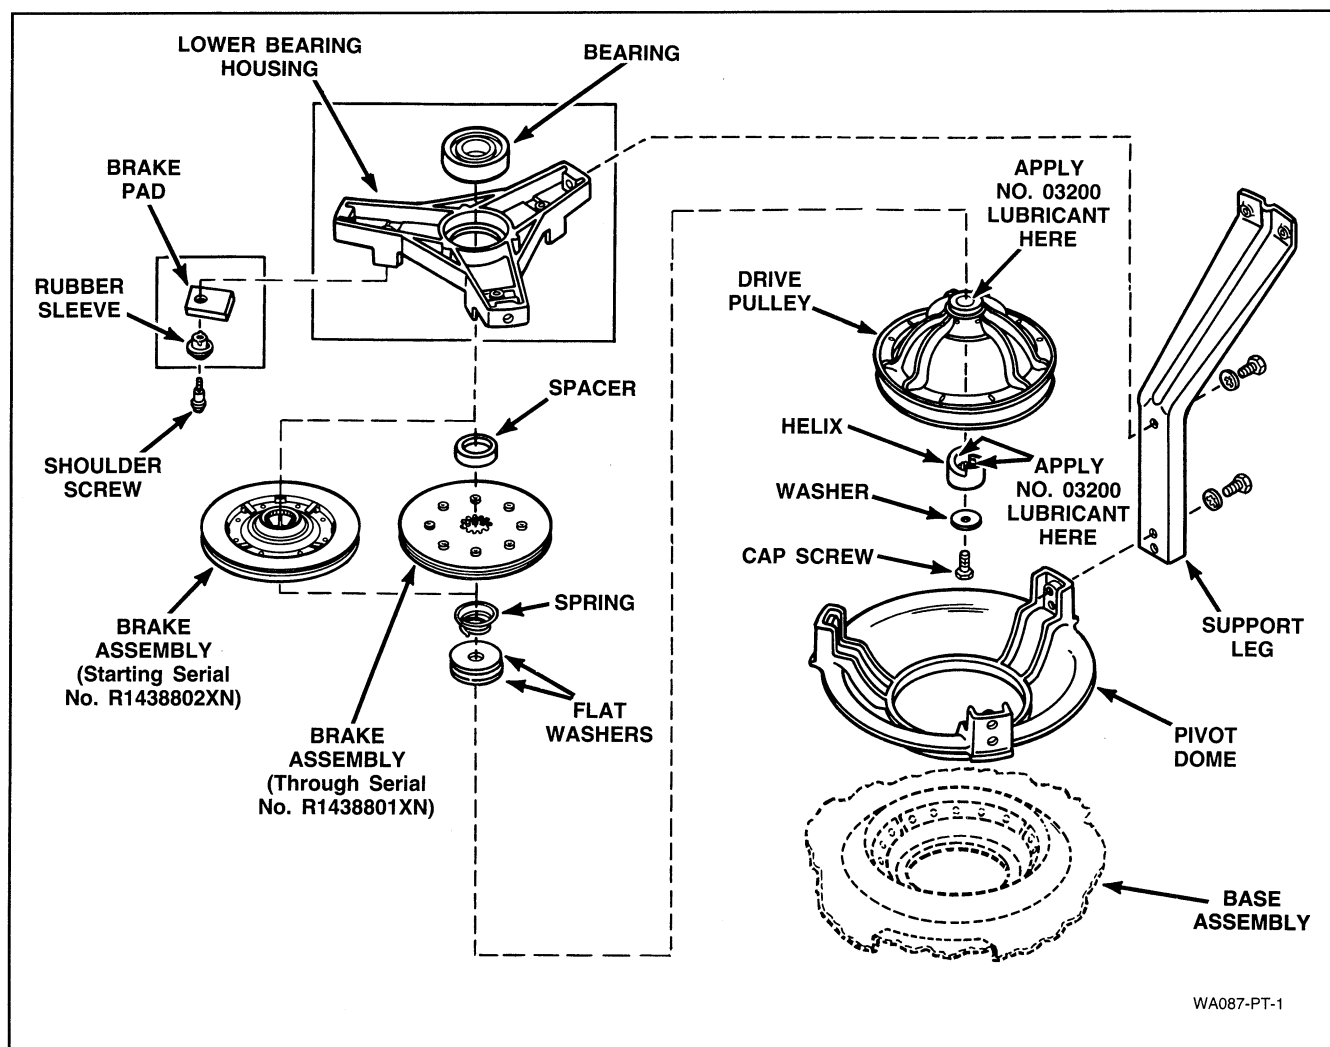

Figure 36
IMPORTANT: The two large flat washers must be in place between the spring and drive pulley when reassembling, see *Figure 36* for assembly sequence.
NOTE: When reassembling, place a small amount of No. 03200 Lubricant to the top side of the drive pulley that will be contacting the large flat washers. Lubricate the helix ramps with No. 03200 Lubricant, see *Figure 36.*
- b. Using a right angle needle nose pliers, remove spring from around lower transmission tube (located inside the brake assembly), *Figure 36.*
- c. Remove three screws holding brake pads, rubber sleeves and brake assembly to lower bearing housing, *Figure 36*, then remove brake assembly, pads and spacer off bottom of transmission assembly.
NOTE: Refer to *Figure 36* for assembly sequence.
- s. Remove three screws and rubber sleeves holding brake pads to lower bearing housing, *Figure 36*.
- u. Remove three screws holding lower bearing housing to tub support legs, *Figure 36*.